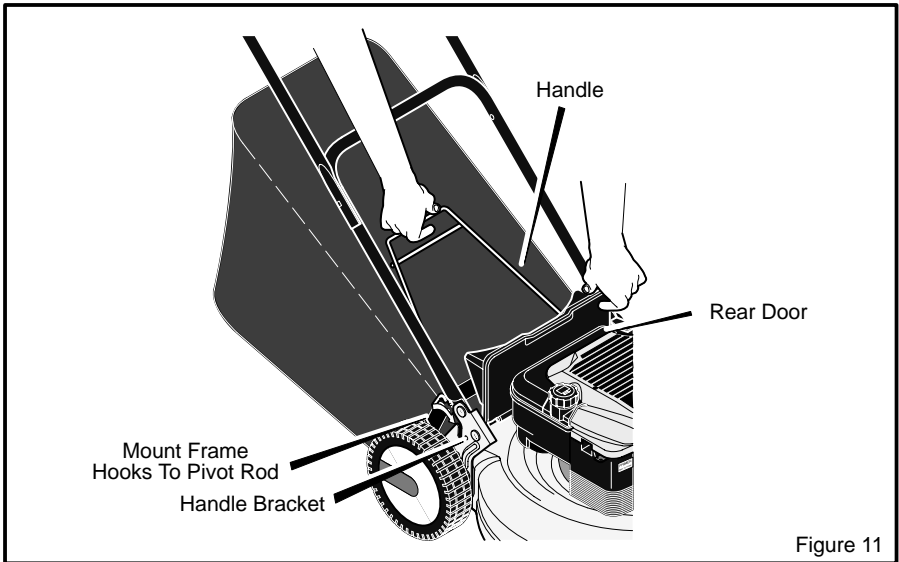

Figure 11
1. To mount the grass bag on the mower, raise the **rear door**. Hold the **handle** of the grass bag. Put the grass bag in the operating position (Figure 11). Lower the **rear door**.
1. Hold the **rear door**. Raise the **rear door** to a vertical position (Figure 11).